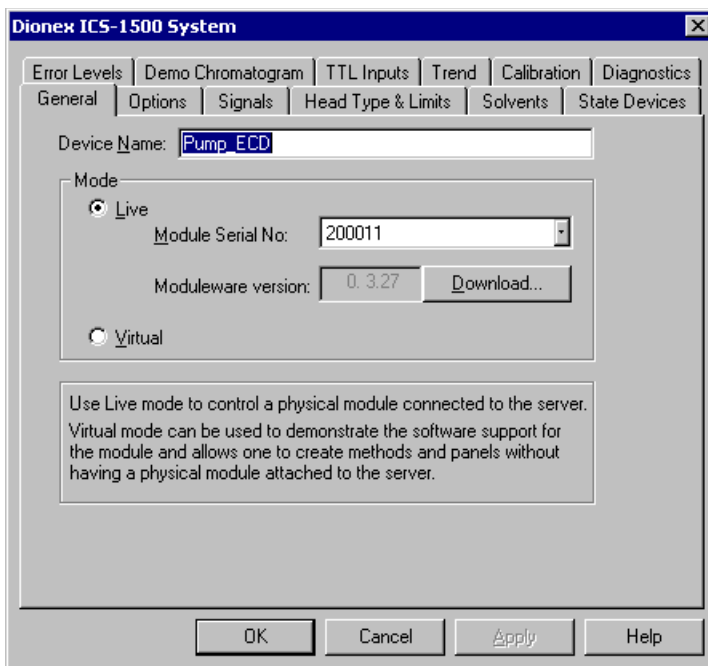

Figure 14. ICS-1500 System Properties
3. The ICS-1500 System dialog box opens (see Figure 14). The **General** page shows the Device Name (**Pump_ECD**), the Mode (**Live**), and the Module Serial No.